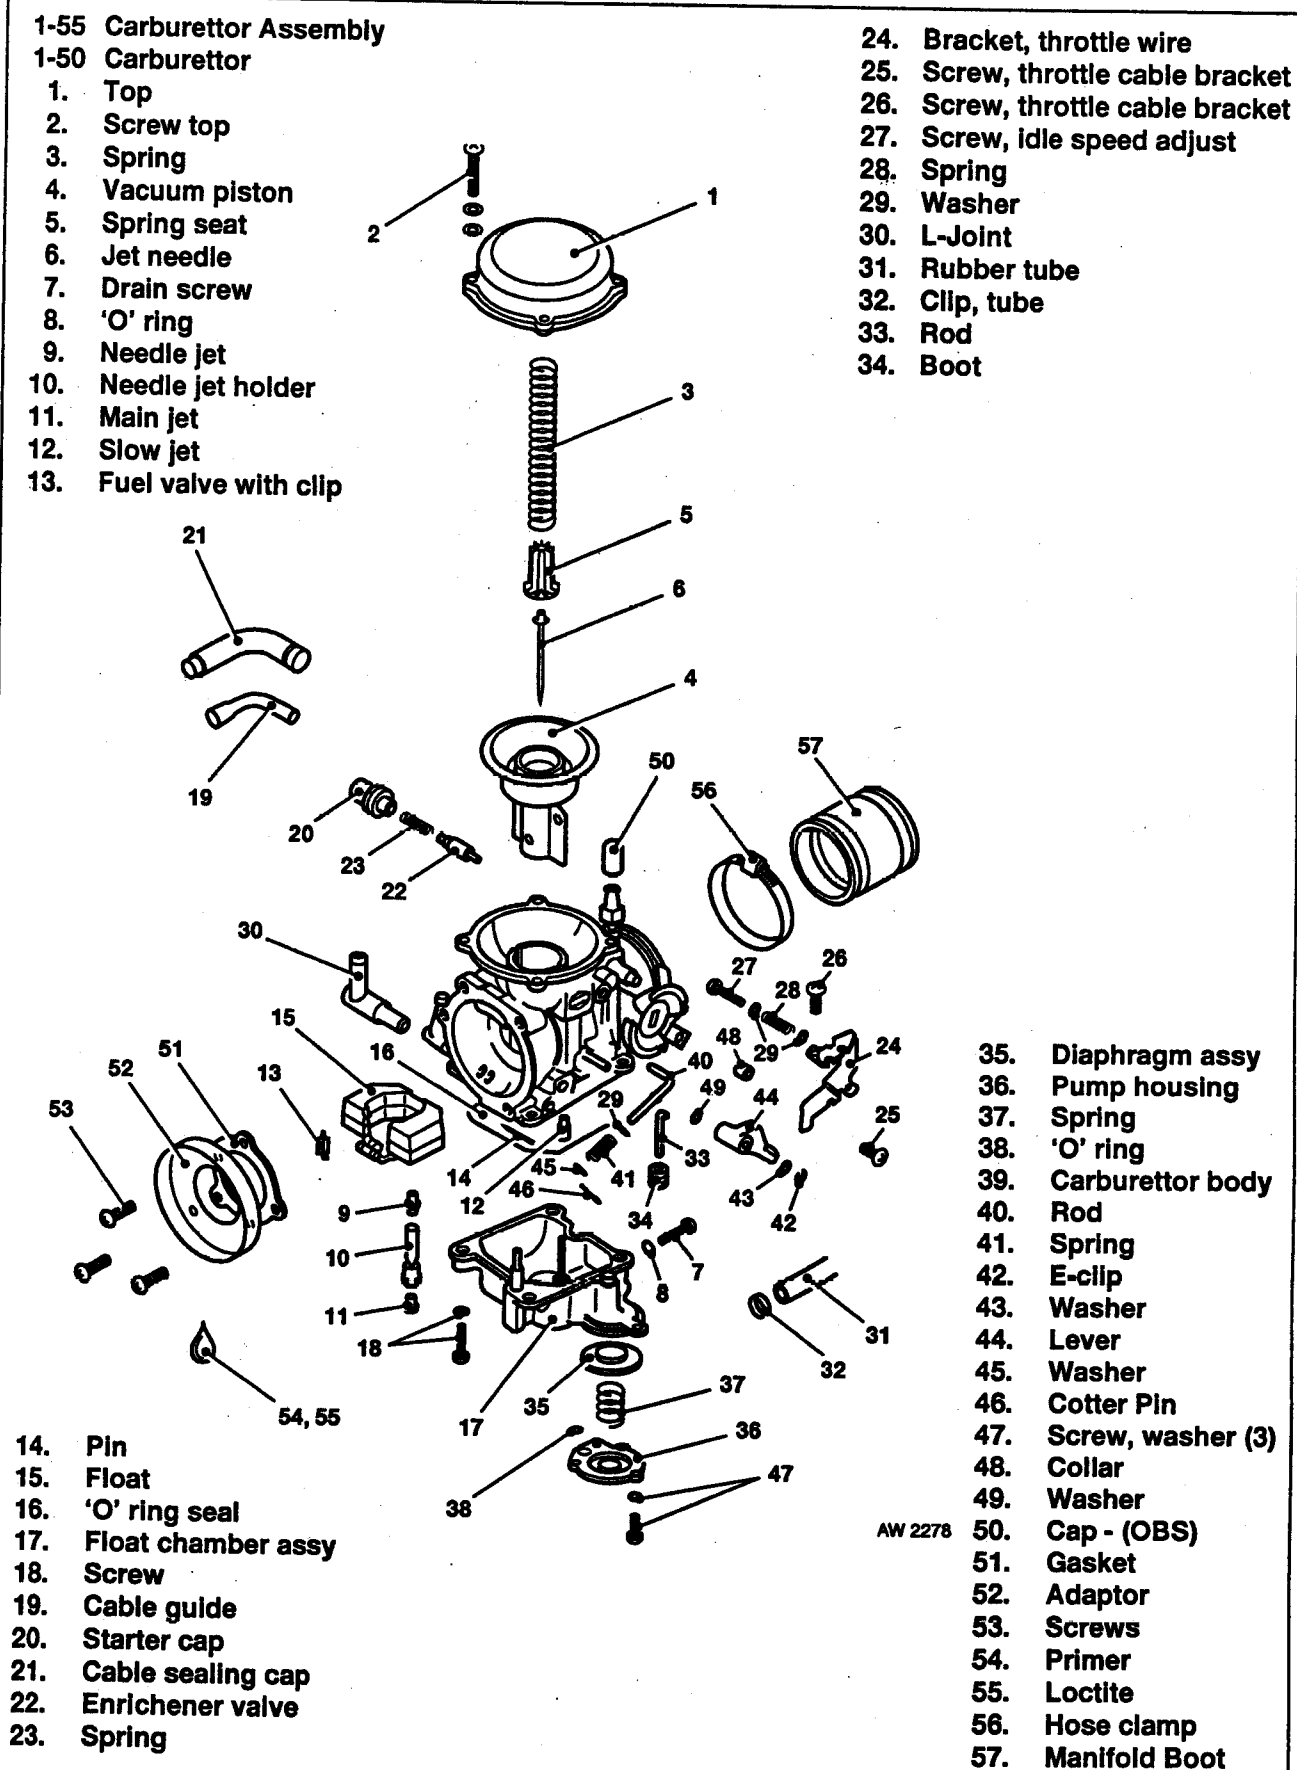

Fig 4.17 Exploded Carburettor View
(5) **Disassembly.** Fig 4.17 refers.
1. Cleaning Inspection and Repair. Fig 4.17 refers.
- (a) Check float bowl 'O' ring (16) for any distortion or damage. Replace if seating surfaces are damaged.
- (b) Examine inlet valve (13) and inlet valve seat. Clean with carburettor cleaner. Replace if seating surfaces are damaged.
- (c) Clean low speed jet (12) with carburettor cleaner. Check to be sure all orifices are open.
- (d) Check enrichener valve (22). Be sure needle guide is clean, straight and undamaged. Check composition seating surface for wear or damage. Replace if damaged.
- (f) Clean needle jet (9). Replace if damaged.
- (h) Check needle jet holder (10). Clean bleed tube orifices. Replace holder if damaged.
- (j) Check float (15) for cracks or other leaks. Replace if damaged.
m. Assembly. Fig 4.17 refers.
(1) Vacuum Piston Chamber
- (a) Place needle (6) through centre hole in vacuum piston (4). Place spring seat (5) over top of needle.